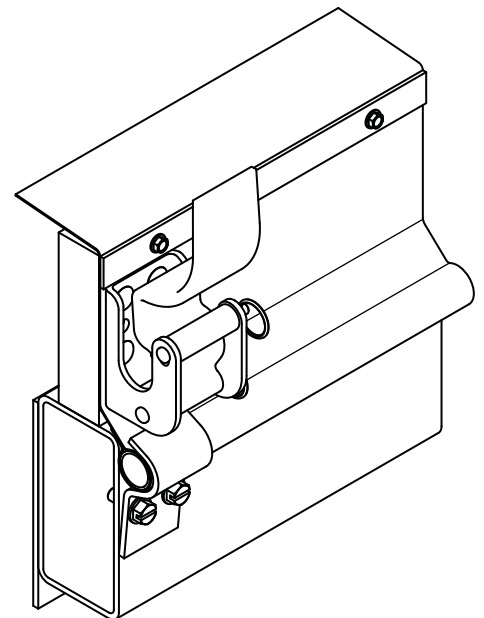

Figure 55
4) Figure 55. Attach aluminum flat at top of sideboard for the full length of the tarp.